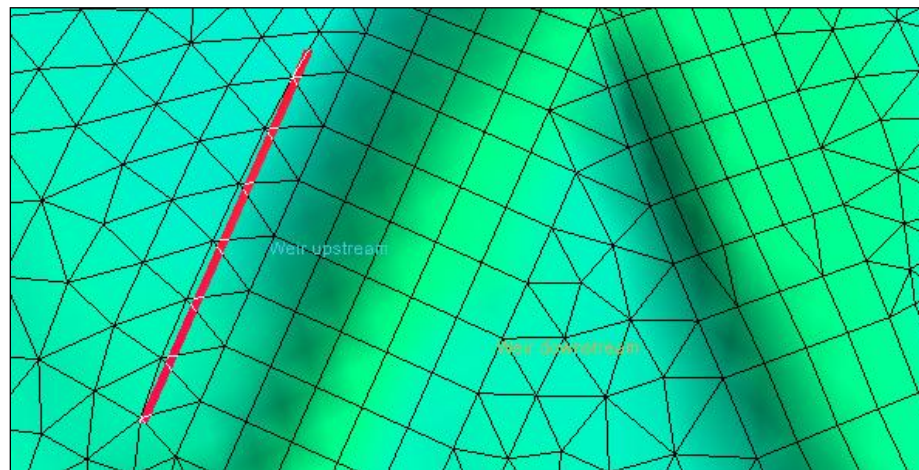

Figure 5 Location of the BC data line
2. Using the **Create Feature Arc** tool, create an arc away from the upstream weir arc (see Figure 5).